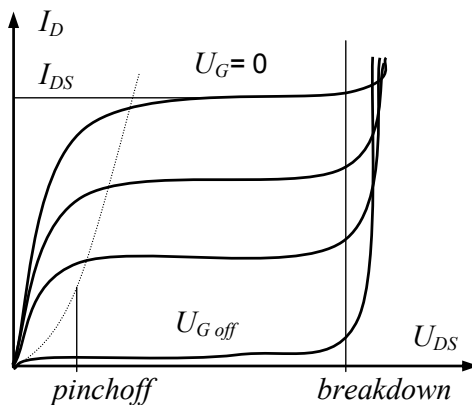

Fig. 1.33
**Output characteristics.** Fig. 1.33 illustrates a set of *drain curves* of a JFET. The drain current  $I_D$  versus drain-source voltage  $U_{DS}$  increases rapidly at the first ohmic region, then levels off and becomes almost horizontal at the second active region. If the drain voltage is too high, the JFET breaks down. The minimum voltage of the second active region is called a *pinchoff*, and the maximum voltage is called the breakdown. Between the pinchoff and breakdown, the JFET acts approximately like a stable current device with a shorted gate. The gate voltage  $U_{G\ off}$  of the bottom curve is called a *gate-source cutoff voltage*. This voltage closes the transistor. As shown in Fig. 1.33, in the ohmic region, the drain resistance depends on  $U_G$ . Unlike the bipolar transistors, one can change this quantity by altering the gate voltage. Typically, the on resistance of a FET device is on the order of 10  $\Omega$  to 100  $\Omega$ .